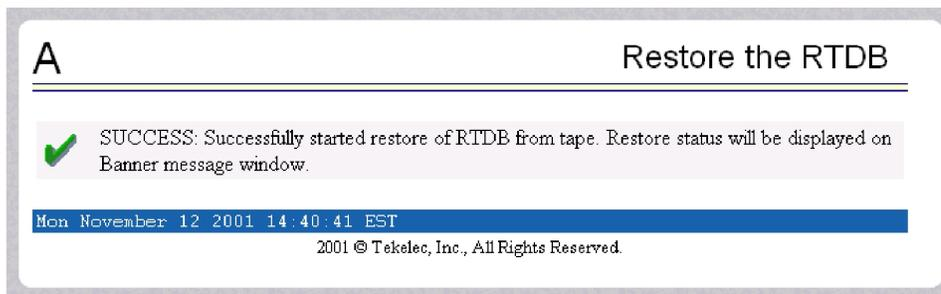

Figure 84: Successful RTDB Restoration
7. After the file is successfully restored, the screen shown in *Figure 84: Successful RTDB Restoration* displays.